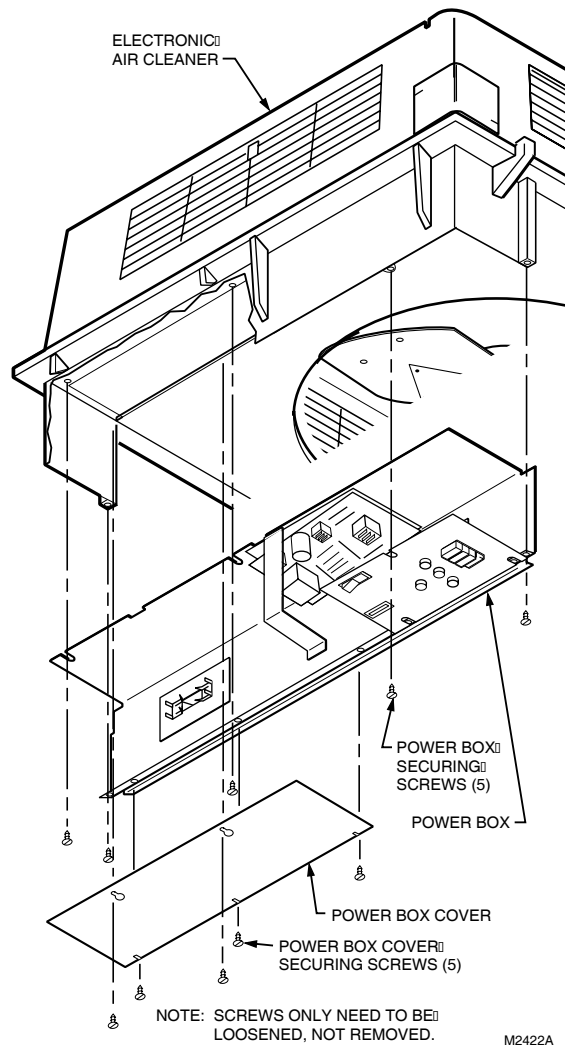
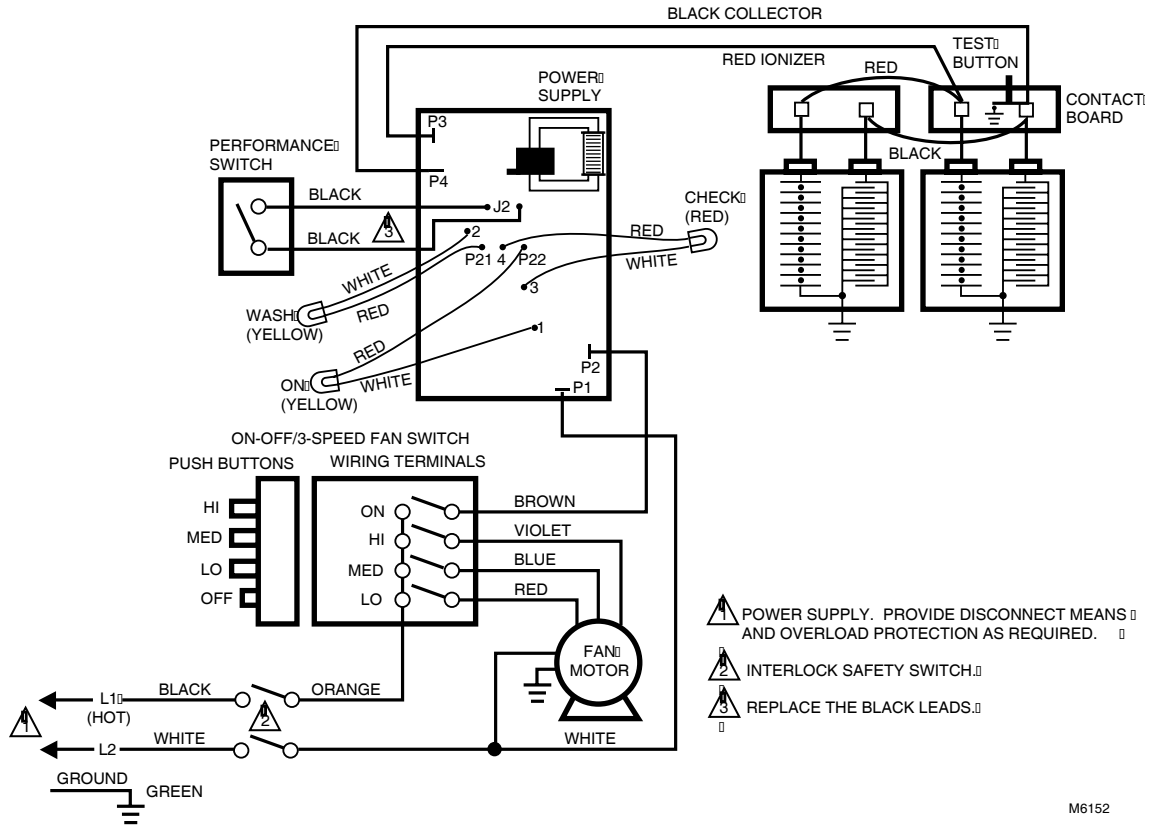

Fig. 21. Removing the F90 Power Box Assembly.
Fig. 22. F90A 120 Vac model schematic diagram.
The F90 troubleshooting charts quickly isolate F90 problems. See Fig. 20. If removing power box, follow instructions below. See Fig. 21. For the F90 schematic diagrams, see Fig. 22 through 25.
3. Loosen the screws holding the power supply assembly cover plate and remove the cover plate. See Fig. 21.
3. Loosen two screws on inner wall of power supply assembly and three screws on the top of the assembly. Slide the power supply assembly toward the center of the air cleaner and disconnect the two Molex connectors and the one quick disconnect. See Fig. 21.